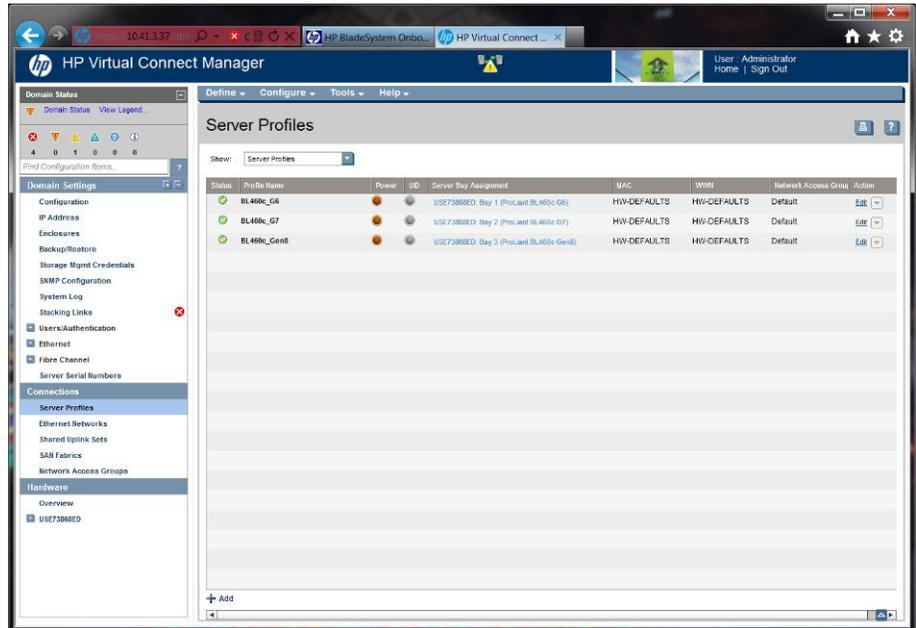

Figure 16: The Server Profiles screen.
1. In the left pane of the Virtual Connect Manager, click Server Profiles. (See Figure 16.)